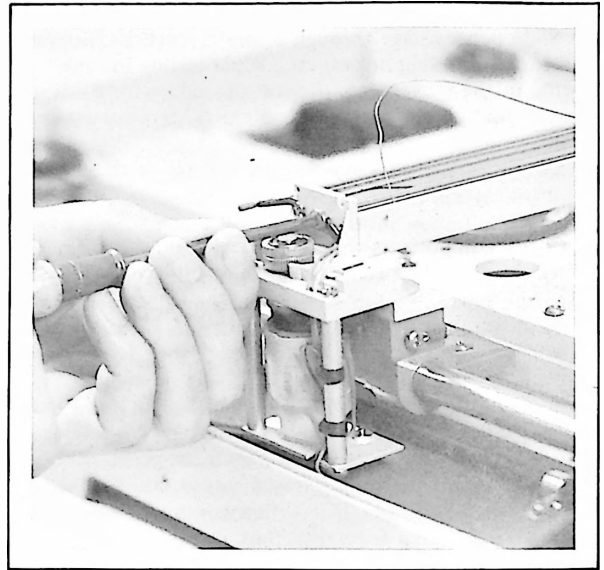

Figure 5-5. Carriage Arm Removal
- d. Remove screw at motor end of carriage arm. See Figure 5-5.